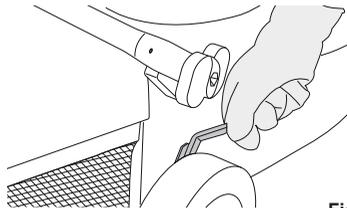

Figure 5
- adjust the cutting height levers by pulling outwards and moving into the required position (Figure 5)